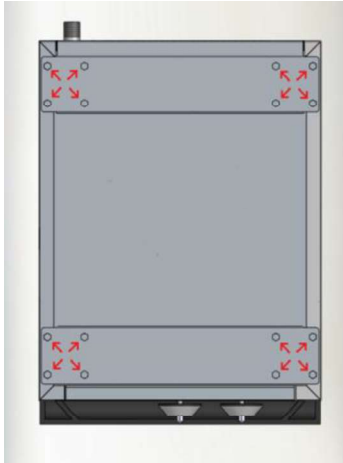

Fig. 1
2. Turn chassis up side down and locate the leg plate to align the four screw holes (Fig.1).